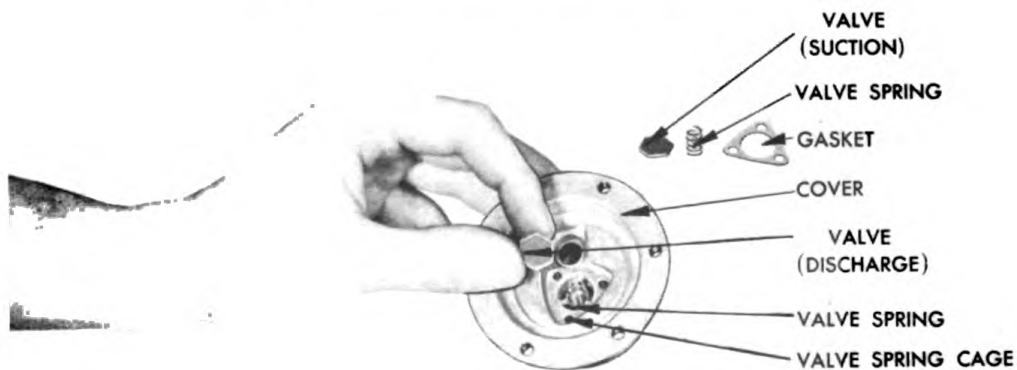

Figure 302. Removing Fuel Pump Valve and Cage Assemblies.
- g. Lift out valve and cage retainer, two valve and cage assemblies and gasket. Figure 302.